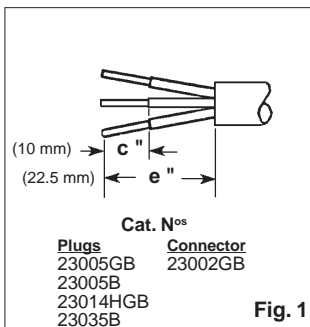
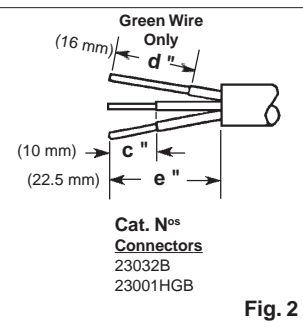

Fig. 1
Fig. 2
- Strip cord jacket and conductors as shown in Fig. 1 or Fig. 2. DO NOT TIN CONDUCTORS.